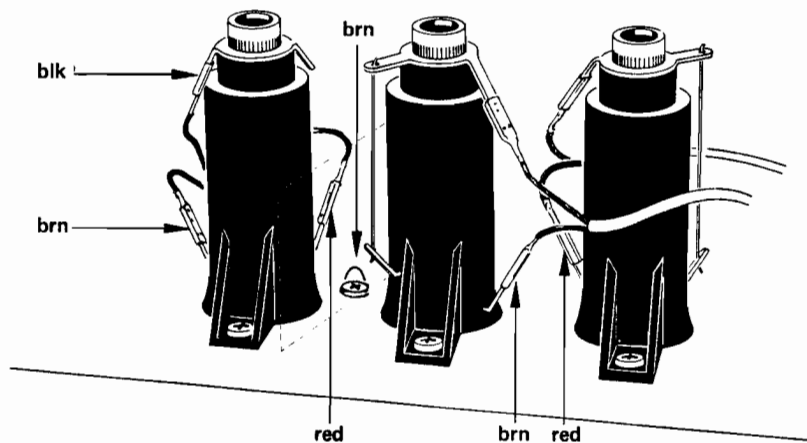

Fig. 3.13-18
- Pull connectors from Jacks. ( fig. 3.13-18 ).